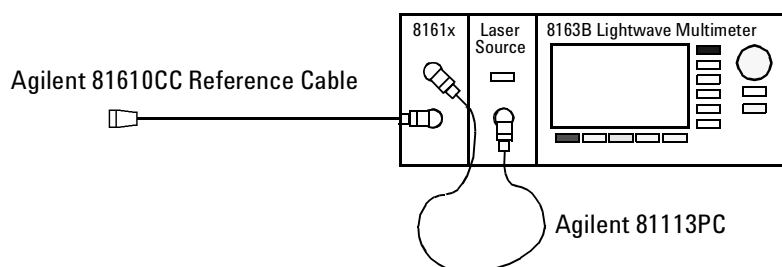

Figure 98 Measuring the Return Loss of the Reference Cable - External Source
- 1 Making sure all the connectors are clean, set up the instrument as shown in Figure 98 if you are using an External Source,